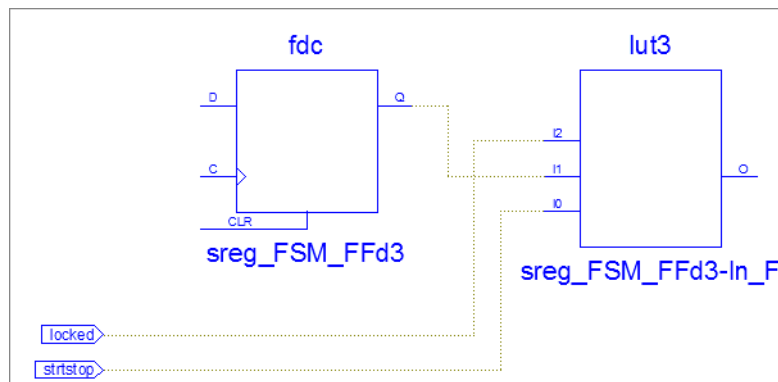
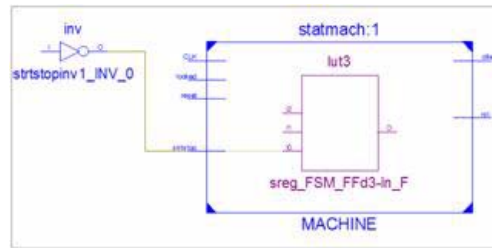

Figure 5-15: Start-up Schematic
Figure 5-16: Step Schematic
5. Comparing the start-up schematic, as shown in Figure 5-15, with the one we obtained at “Step 6: Show/Hide Block Contents”, as shown in Figure 5-16, you will see that the **sreg_FSM_FFd3-In_F** primitive is not placed inside the **MACHINE** hierarchy block. In addition, **MACHINE** I/Os are represented as primary design pins.